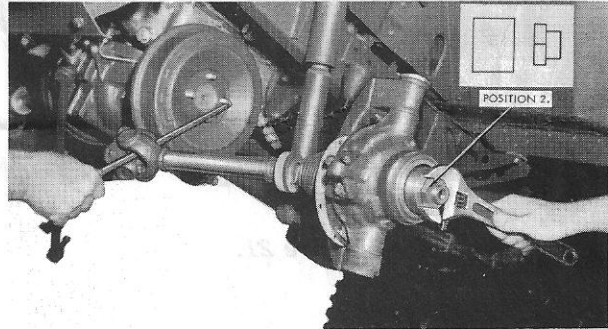

Figure 19.
24. Reverse nut as shown in figure 19 and continue drawing the joint into the steering knuckle until fully seated.